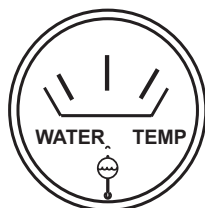

Figure 50. Coolant Temperature Gauge
14. The coolant temperature gauge (Figure 50) will indicate the coolant temperature. Under normal operating conditions the coolant temperature is between 165 and 215 degrees fahrenheit.